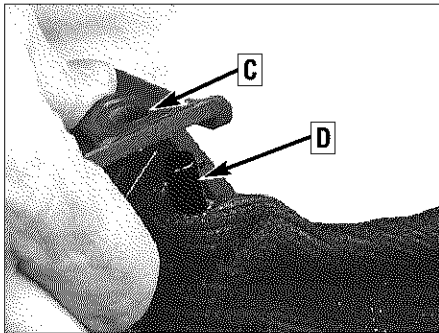

Figure 5-12: Replacing bag door.
2. The door is mounted onto rods at both ends of the wire-formed handle. Squeeze the handle with one hand while pulling the top-side of the door (C, Figure 5-12) out and off the end of the rod (D).
3. To replace the door, insert one of the ends of the wire-formed handle (D, Figure 5-12) into the hole in the top-side of the door (C).
4. Squeeze the handle with one hand while you pull the other side of the door (C, Figure 5-12) up and over the end of the other rod (D). The door should swing freely when done.